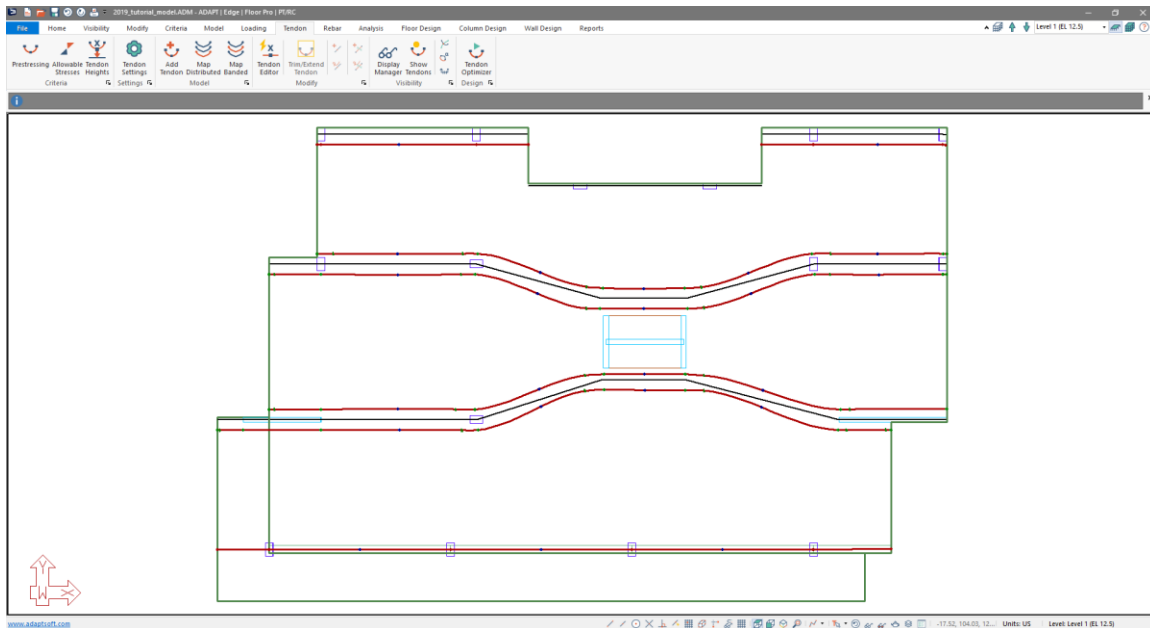

Figure 9-50
- Do the same to the group of tendons above this group of tendons. When you are finished the tendons should now look similar to **FIGURE 9-50**.